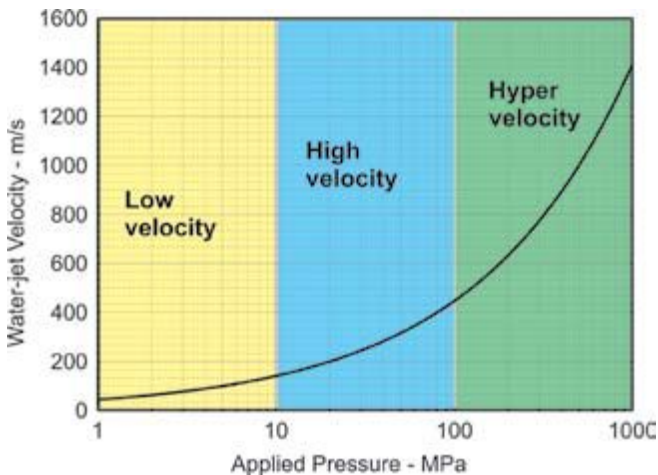

Figure 3. Effect of Applied Pressure on Water-jet velocity
Equation (1) has been plotted in fig.3 for a range of applied pressures. A logarithmic scale has been used for pressure because of the huge range that is involved. Water-jet velocities can be arbitrarily divided into “Low”, “High” and “Hyper”. It is hyper velocity that is applicable to water-jet peening.